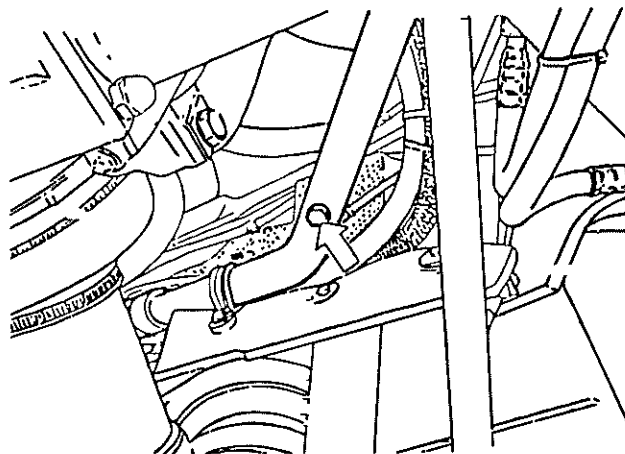

Fig 2 Coolant draining plug
- 5.4 Place a suitable container under vehicle, to catch coolant draining from system. Open the heater valve and unscrew the drain plug (see Fig 2) at the feed line.
- 6.1 Replace the drain plug (see Fig 2).